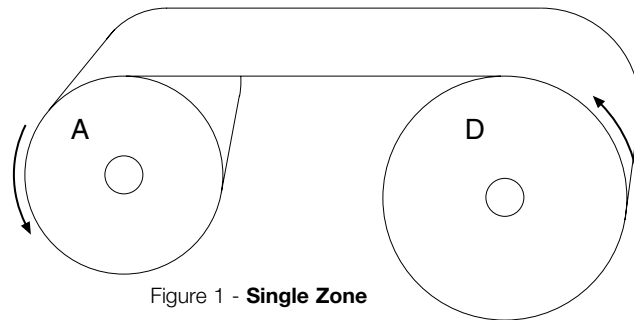

Figure 1 - Single Zone
Simple machines, such as rewinders or inspection machines, may have only one zone (see Fig. 1). The primary goal here is to control tension so that the rewound package is accurately wound. Typically, the winder (A) would be a simple line speed motor drive, with tension controlled by a brake system at the unwind (D). The method of brake control (i.e.: open or closed loop) would be determined by the accuracy demands of the application. For simple diameter compensation, an ultrasonic sensor measuring the diameter of the roll can produce satisfactory results. Greater accuracy may require closed loop feedback, such as from a dancer or load cell.